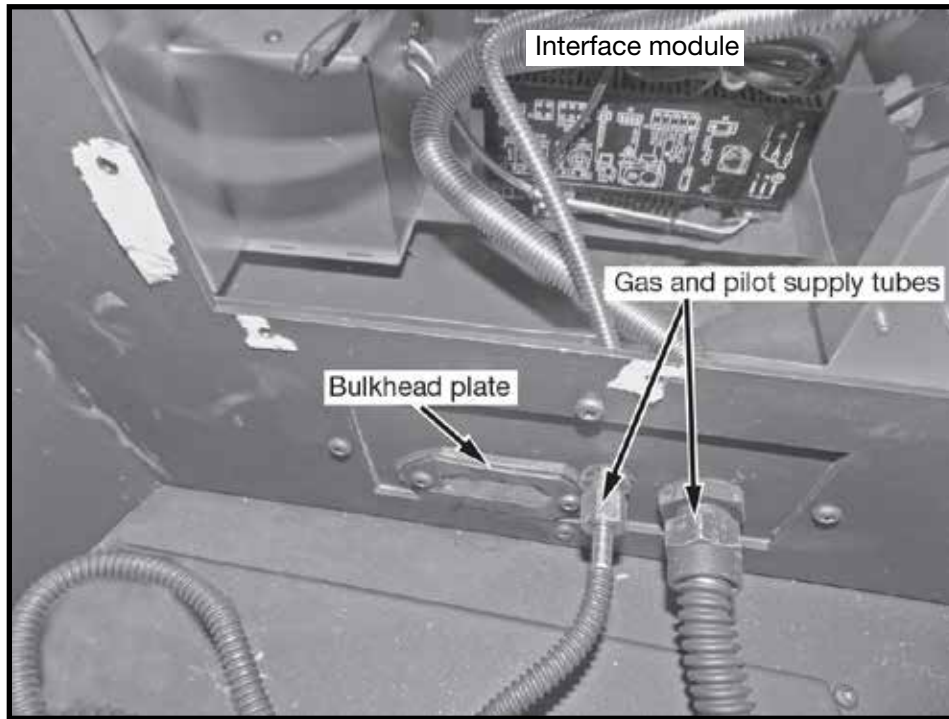

Figure 8: Gas and pilot supply tubes.
6. Attach the main gas supply line and the pilot gas supply line to the bulk head fittings and tighten (Figure 8). Ensure that there are no leaks.